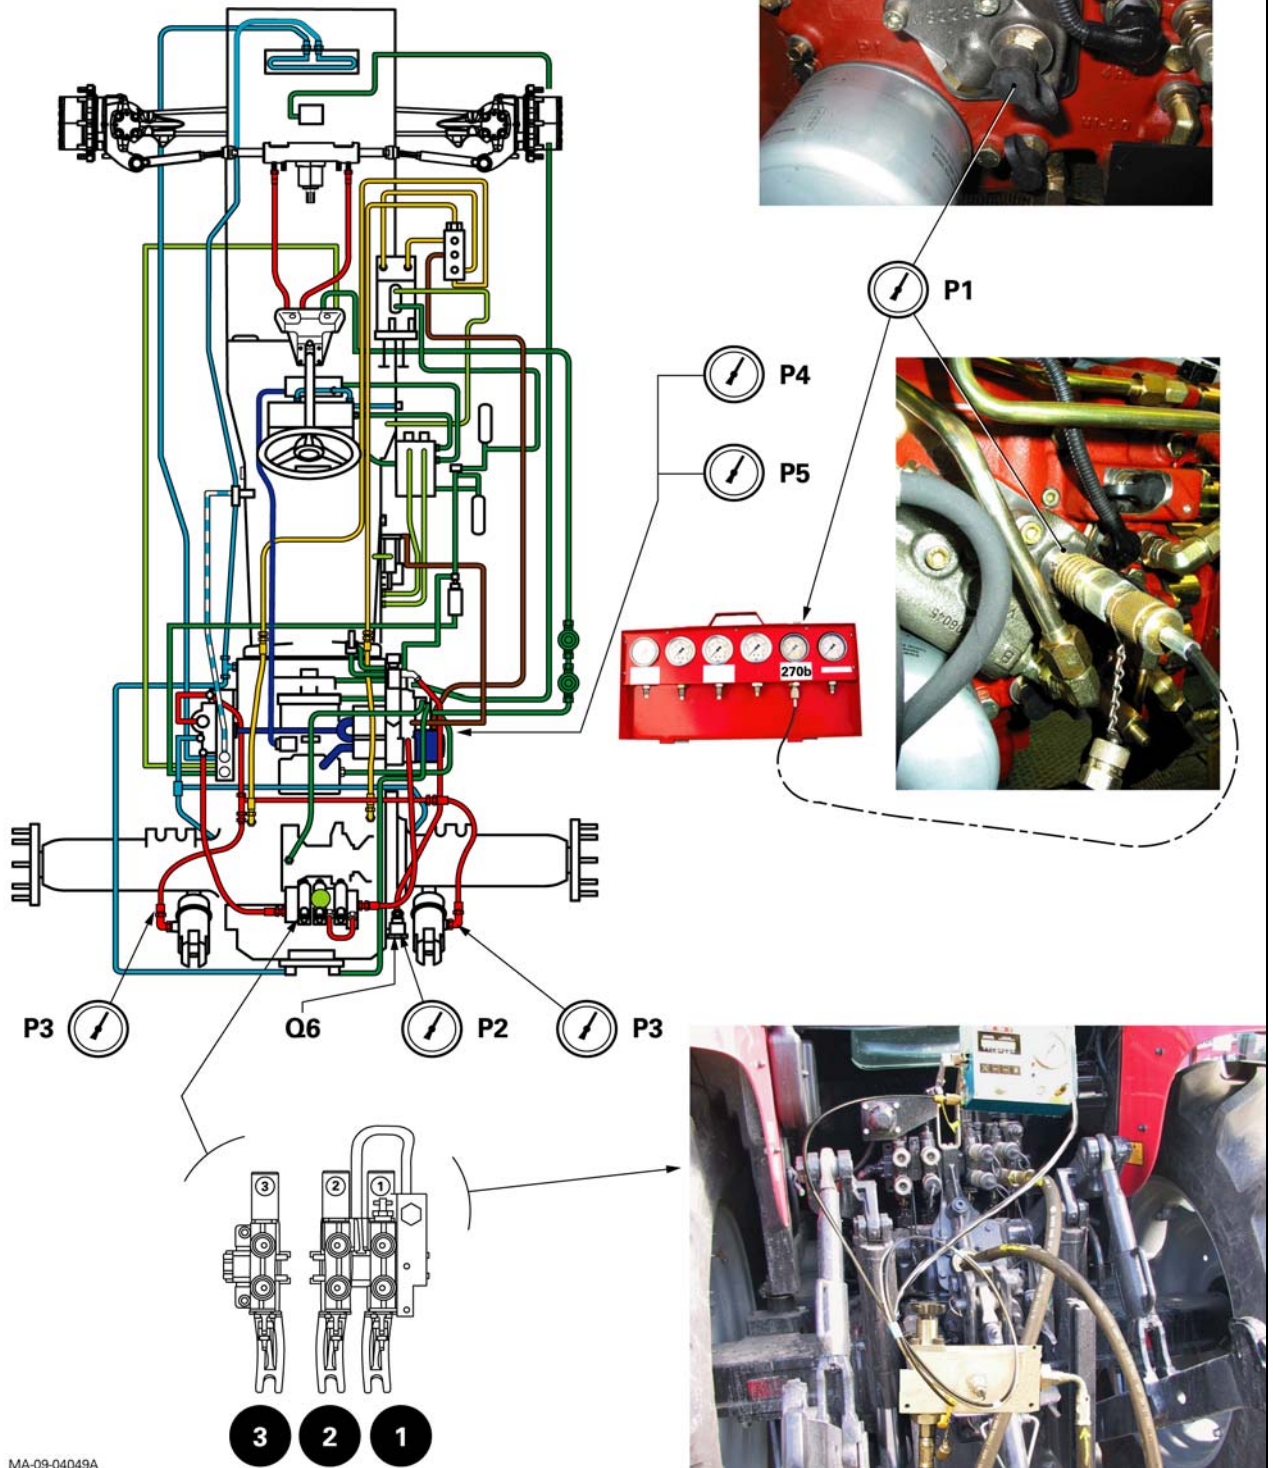

Fig. 4
- Connect a flowmeter to the relevant spool valve (no.3 for example) (Fig. 4).
The pressure read should increase gradually until it reaches **P2 = 130 - 150 bar maximum** (Fig. 4).
- Check **Q6 = 24 - 31 l/min** (Fig. 4).
P3 = 200 - 210 bar (Fig. 4).